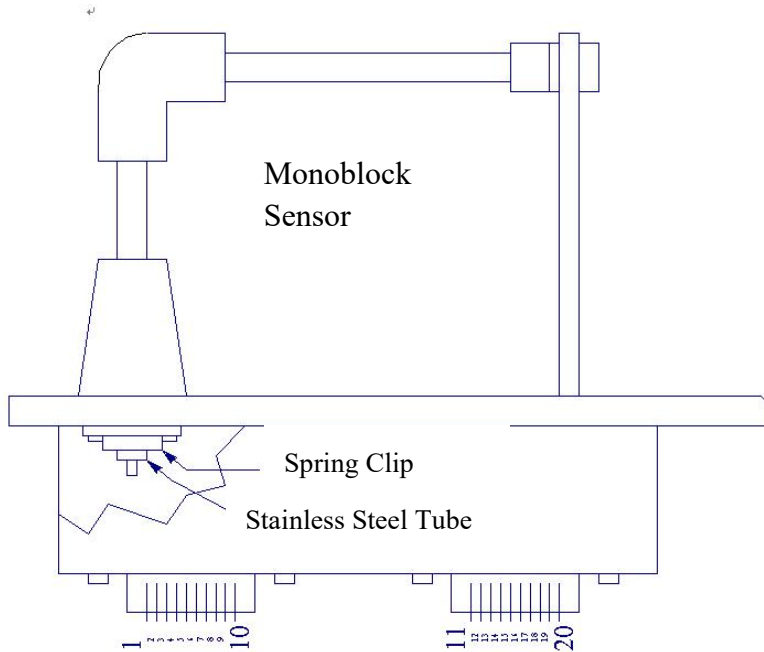

Fig. 10-1
10.1 Use ohmmeter to measure the integrated normal sensor (Fig. 10-1)